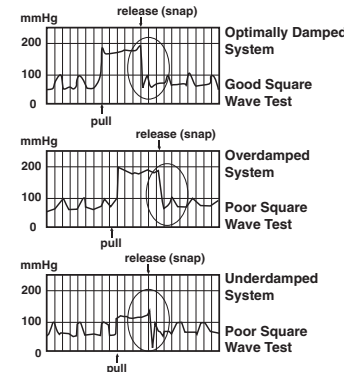

Figure 4: Waveform response to "square wave response test".
5. Check System Dynamic Response with "square wave response test". See Fig. 4.
- ii. Compare obtained pressure waveform to those presented in Fig. 4.